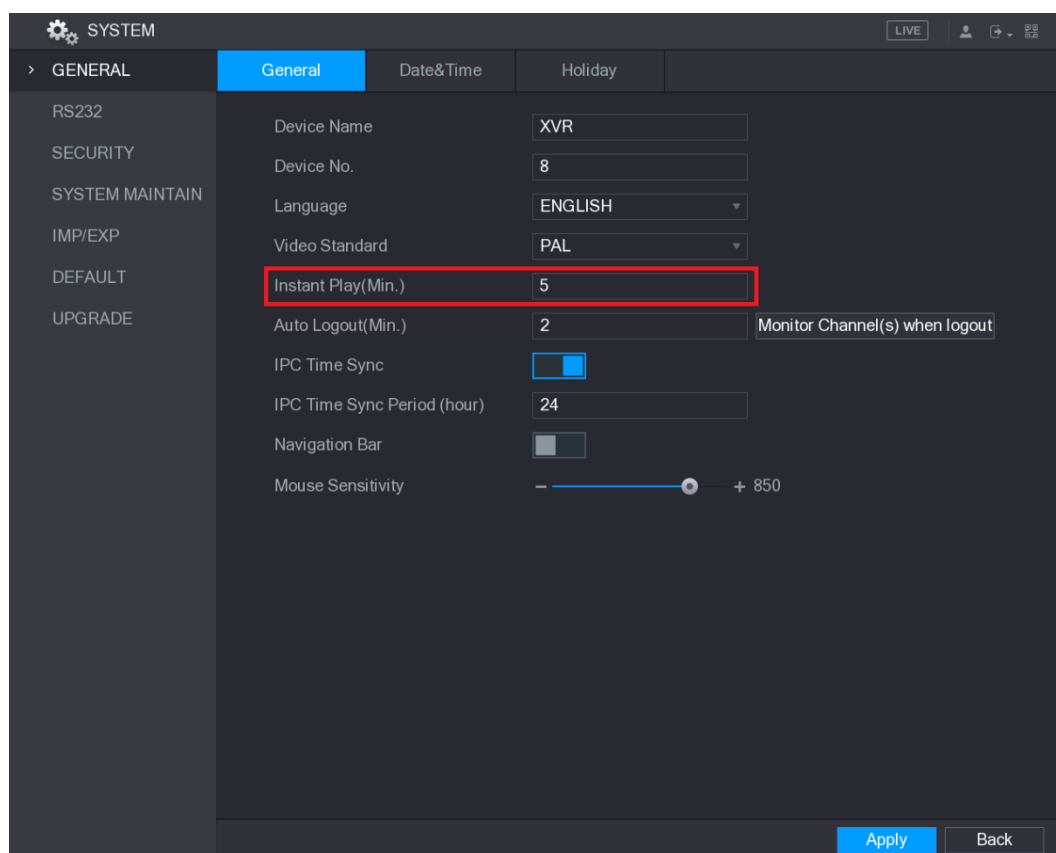

Figure 5-40
- To change the playback time, select **Main Menu > SYSTEM > GENERAL**, in the **Instant Play** box, enter the time you want to play back. See Figure 5-40.